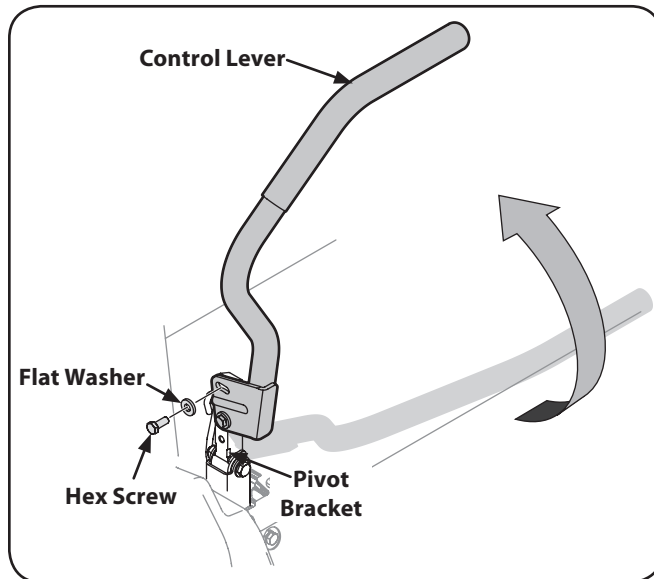

Figure 3-4
2. Lift and swing that control lever upward until the slotted hole in the lever bracket aligns with one of the holes in the pivot bracket. See Figure 3-4.
3. Slide the flat washer onto the hex screw. From the outside, insert the hex screw with washer through the control lever slot and the hole of the pivot bracket. See Figure 3-4. Using a 1/2" wrench snug the screw, but do not fully tighten.